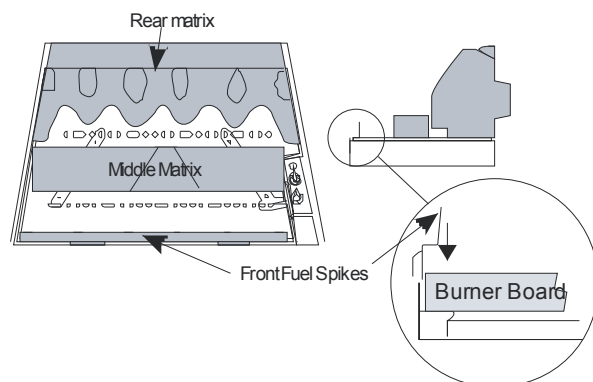

Figure 20
2. Place the **middle matrix** onto the burner board so that it keys into the triangular depression on the board (see **Figure 20**).
3. Insert the front fuel spike between the board and the front of the metal tray (see **Figure 20**).